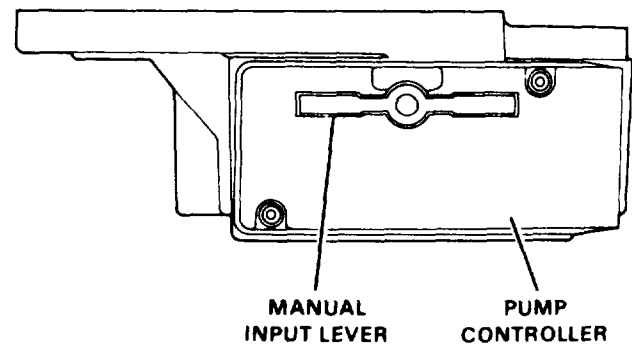

Figure 10C-3. Pump Controller
**PUMP CONTROLLER MANUAL INPUT TEST.** To manually test the pump controller, proceed as follows (see Figure 10C-3):